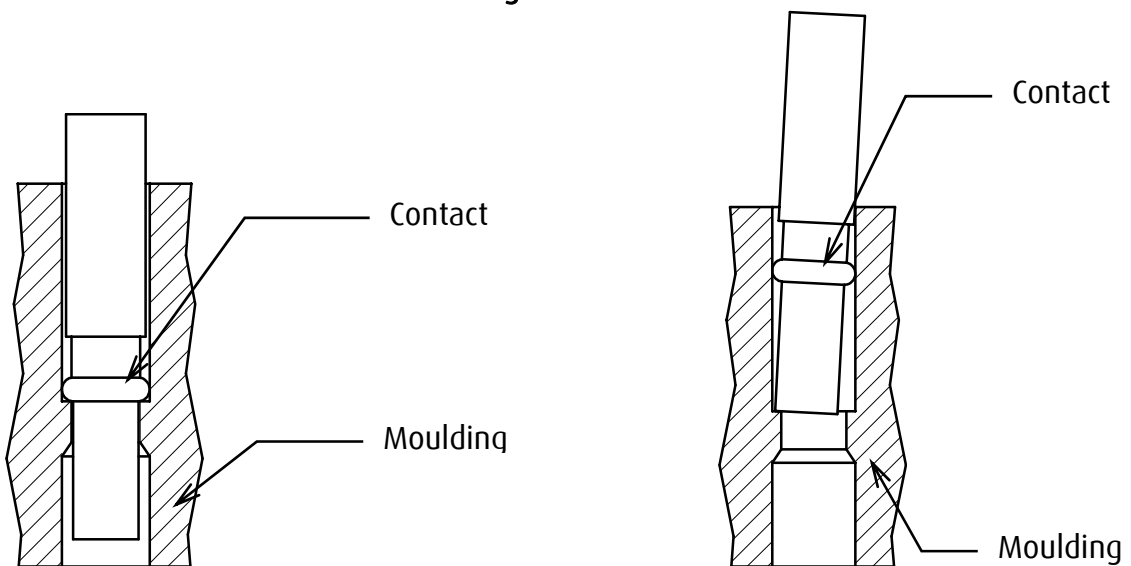

Figure 2
4. Place the crimped socket partially into the moulding. The correct position is reached when approximately 1.5-2mm of socket protrudes (see Figures 2 and 3).